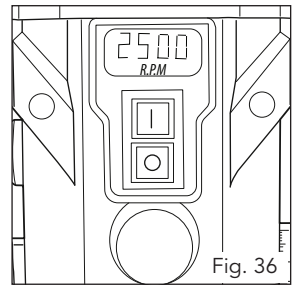

Fig. 36
1. To switch on the machine, push in the green On button "I" (11); the machine starts up (Fig. 36).
2. To switch off, press the red Off button "O" (12); the device shuts down (Fig. 36).